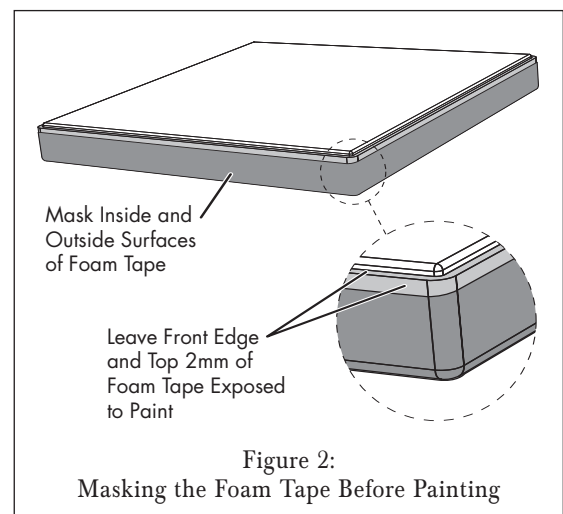

Figure 2:
B) Use a painter's tape designed for delicate surfaces (such as 3M Scotch Blue Painter's Tape For Delicate Surfaces, #2080) to mask the inside and outside surfaces of the Foam Tape on the Finish Component's rim. Leave the front edge and top 2mm of the Foam's outside surface exposed to the paint, since this will be visible when the Finish Component is installed on the speaker. See Figure 2.